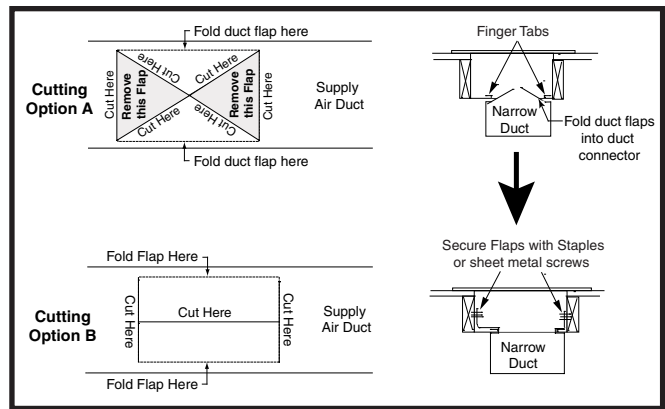

Figure 16. Narrow Ducts - Option 1
1. Select Option A or Option B in Figure 16 and cut the top of the supply air duct. Remove metal flaps from the duct (shaded area) if Option A is selected.
5. Form the duct flaps up against the side of the duct connector as tight as possible. See Figure 16.
1. Cut and remove the top of the supply air duct as shown in Figure 16.